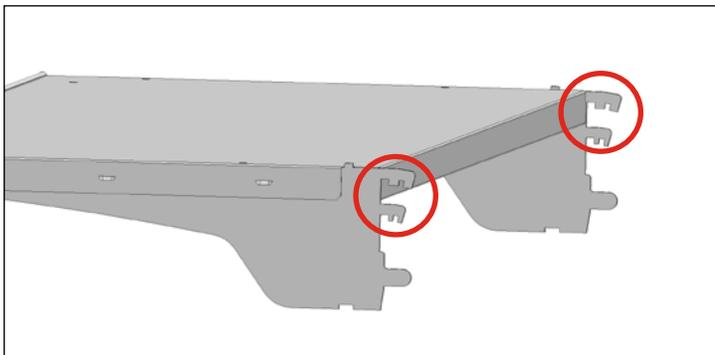

Fig. 21. Angle adjustment slots on the shelf support.
3. Hook a shelf assembly into the shelf standards at the desired height and angle. See angle adjustment slots in fig. 21.